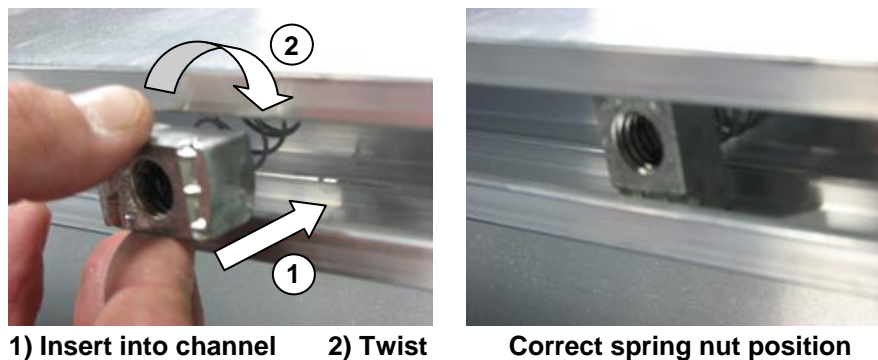

Figure 5: Spring Nut Insertion
1. Insert spring nuts into the top and bottom scoreboard channels. Twist the spring nuts until they are perpendicular to the scoreboard channel (**Figure 5**).
5. Place spring nuts into the unistrut. Twist the spring nuts until they are perpendicular to the unistrut channel (refer to **Figure 5** from **Section 2.2**).